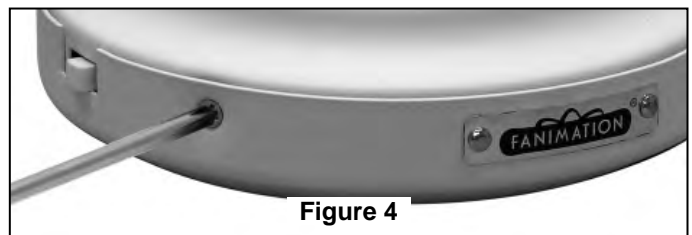

Figure 4
7. Disassemble the Housing Switch Cup/Adapter assembly by removing three screws. (Figure 4)